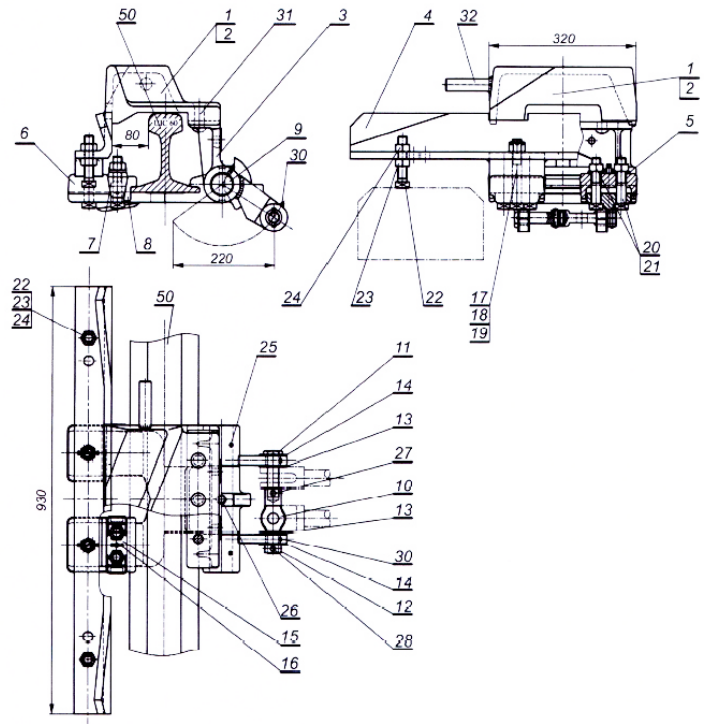

Fig. 2 Derailer of the WKN type – overall dimensions and major components
The major component of the derailer (Fig. 2) is the wedge plate 1 (2) shaped to throw vehicle wheels out of the rail 50 to the desired side of the track, so called derailing side, since that side has a low edge and a sloped cast riser. The edge at the opposite side is abrupt to prevent vehicle wheel to climb onto the wedge plate. The wedge plate is fixed by means of three rivets 31 to the support holder 3 whilst the holder is rotary connected to the base 6 with a socket formed therein. The socket enables installation of the derailer on a rail by means of such facilities as a yoke 7, a spacer 8 and a screw 20.